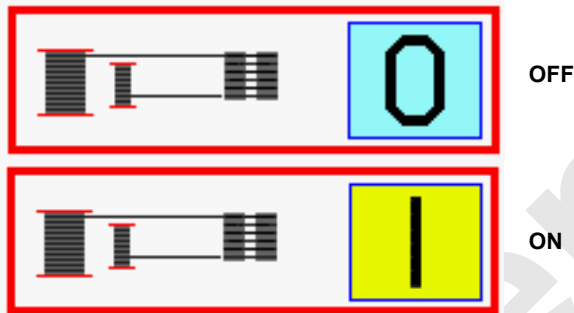

FIGURE 4-48
See Figure 4-48 and Figure 4-49 in the following procedure.
2. In **level 2**, use the select buttons to enter selected drum screen options. Select rigging winch data box (Figure 4-48).
2. In **level 2**, use the select buttons to enter selected drum options screen. Select rigging winch data box (Figure 4-48).